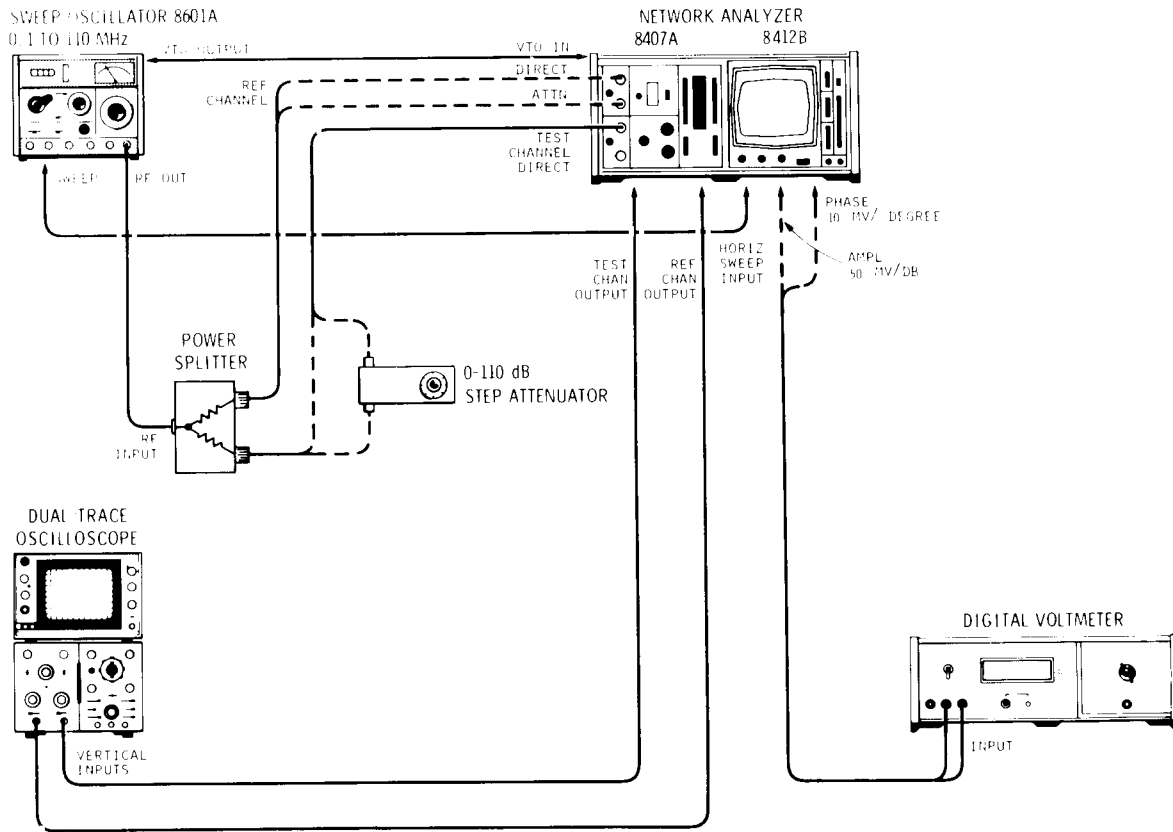

Figure 4-3. Equipment Setup for Performance Test with 8407A Mainframe
- a. Connect equipment as shown in Figure 4-3. Set sweep oscillator for swept mode with sweep width of 10 kHz or less. Set the 8407A AMPL VERNIER to midrange, set DISPLAY REFERENCE CAL controls for zero dB at top DISPLAY REFERENCE switch position, and set DISPLAY REFERENCE switches to +10 dB. (One step down from top on 10 dB/step switch and top position on 1 dB/step switch.) Set 8407A REF CHANNEL LEVEL RANGE switch to the middle position. Adjust sweep oscillator RF output for REF CHAN LEVEL meter indication at the top of the OPERATE range. If UNCAL REDUCE INPUT RATIO light comes on, reduce sweep oscillator RF power or change position of REF CHAN LEVEL range switch to a lower position to cause the light to go out.
- a. Connect equipment as shown on Figure 4-3, with reference input signal to REF CHANNEL DIRECT (0-120 dB attenuator not used).
- (3) Observe the oscilloscope display as the 8407A DISPLAY REFERENCE switch is changed. Any phase shift observed on the oscilloscope is due to 8407A phase error. On low level test channel signals the oscilloscope display approaches a horizontal line; however, a small ringing appears on the test channel waveform. this ringing can be observed for horizontal movement down to the last two 8407A DISPLAY REFERENCE switch positions.
- k. Connect equipment as shown in Figure 4-3. Connect the Reference channel input to the 8407A REF CHANNEL ATTEN input. Connect the step attenuator between the power splitter and the 8407A TEST CHANNEL DIRECT input. Set the 0-110 dB attenuator to 80 dB. Set the 8407A REF CHAN LEVEL ADJ switch to the middle position.